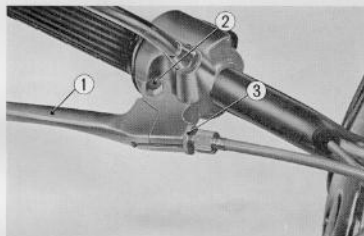

Fig. 4.56 Removing front brake lever
- (1) To remove the front brake lever ①, remove the handle lever pivot screw ② and remove the front brake cable by aligning the grooves in the handle lever and the nut ③. (Fig. 4.56)